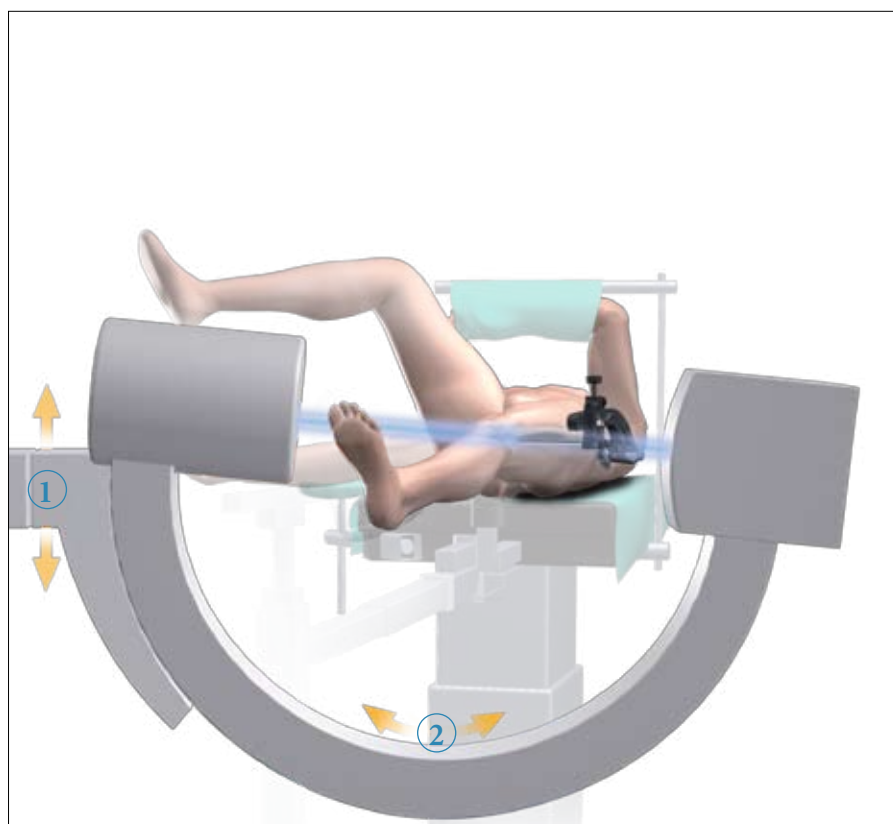

Fig.27
After the Oblique C-Arm positioning is done, adjust the height (Fig.27 ①) and orbital rotation (Fig.27 ②) of the X-Ray beam at the same plane as the Drill Sleeve Assembly (Fig.27).